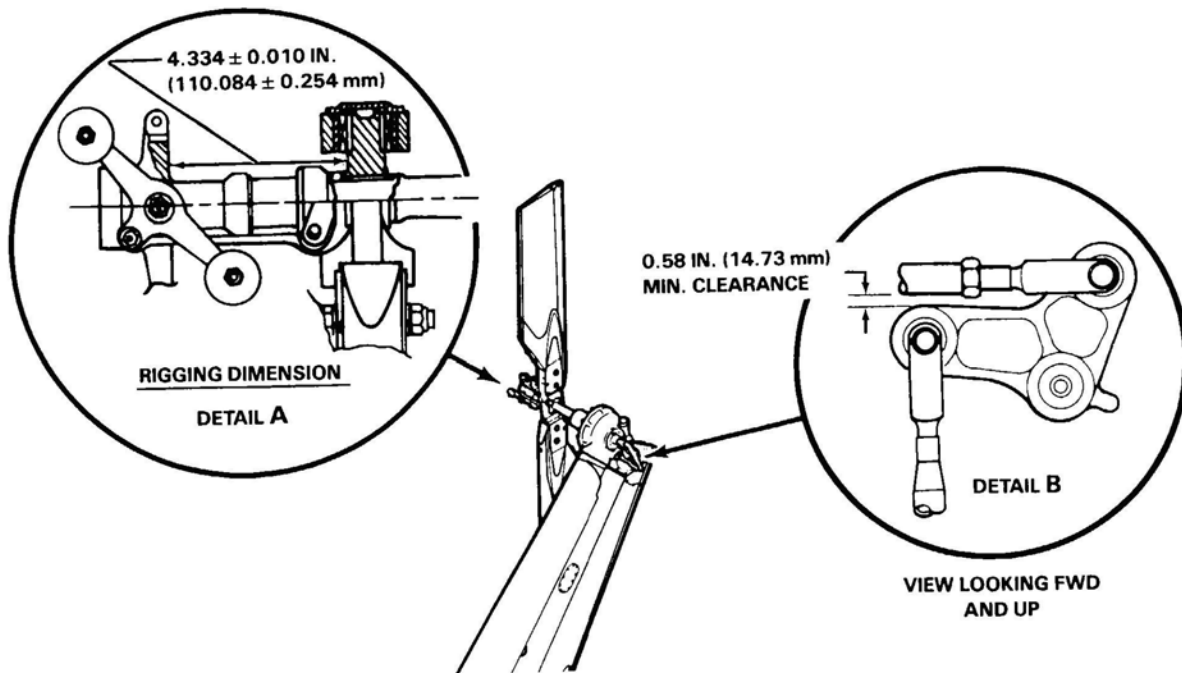

Figure 67-6. Anti-Torque Rigging (212-011-701 Hub and Blade) (Helicopter s/n 31175 and Subsequent)
obtain dimension of 4.334 ± 0.010 in. (110.084 ± 0.254 mm) between inboard face of crosshead and outboard face of trunnion journal (Figure 67-6, detail A).
67.1.9.5 Holding specified position of rotor, adjust link (6, Figure 67-5) to obtain 0.58 in. (14.73 mm) minimum clearance with bellcrank (7) and connect link to lever (5) with bolt, washers, and nut (Figure 67-6, detail B). Torque nut 60 to 110 in.lbs. (6.78 to 12.42 Nm). Install cotter pin.